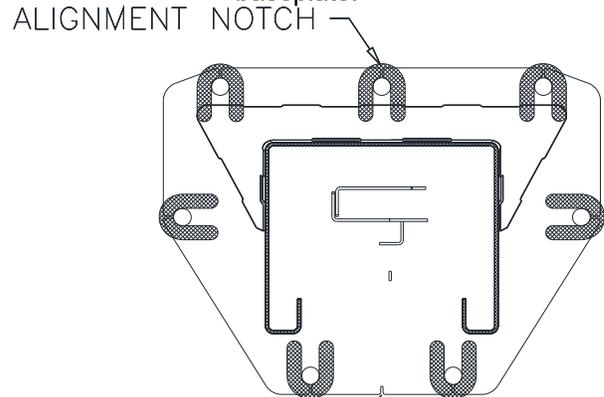

Fig. 7 – Column Shimming
- 16) Repeat steps 11 thru 13 for the two (2) anchors under each carriage.
- 17) Shim both columns to plumb using the shims provided as shown in **Fig. 7**. **DO NOT** shim more than 1/2" at any given point. Use a level no less than 24" in length to plumb columns.
- 20) Check idler column shimming. Use additional shims (see Fig. 7) to remove any gaps that may have been created while installing overhead beam. Tighten anchor bolts and re-check column for plumb. Torque to 150-foot pounds.